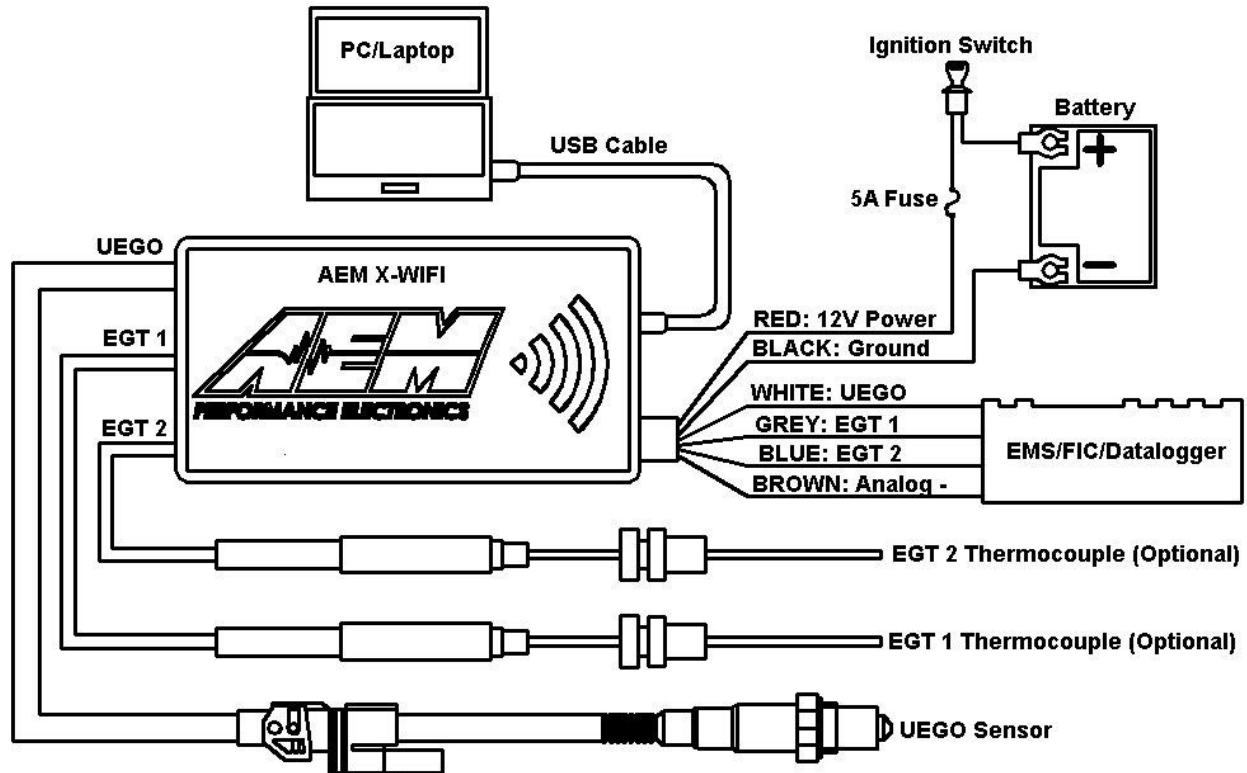

Figure 1. Wiring Schematic
3. Plug the 8-pin power harness into the mating connector on the right side of the X-WIFI and connect the wires as shown in Figure 1.